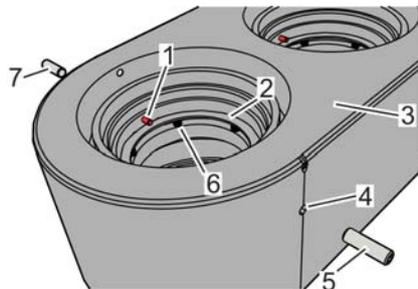

Fig. 123: Installing the support ring
- 6. Fit the support ring (Fig. 123/2) onto the compression springs (Fig. 123/6).
- 7. Insert the hold-down pins (Fig. 123/1) into the threaded boreholes (Fig. 123/4) and only drive through on the inner side at first until they are flush.
Press down the support ring (Fig. 123/2) against the spring force of the compression springs (Fig. 123/6) and drive in the hold-down pins (Fig. 123/1) using a punch (4 mm) until their front end is flush with the inside diameter of the support ring (Fig. 123/2).
⇒ The support ring (Fig. 123/2) is protected against popping out.
- 9. Screw in hexagon socket set screws (Fig. 123/5, 7) into the boreholes (Fig. 123/4) until they are flush with the bearing housing (Fig. 123/3) on the outside.